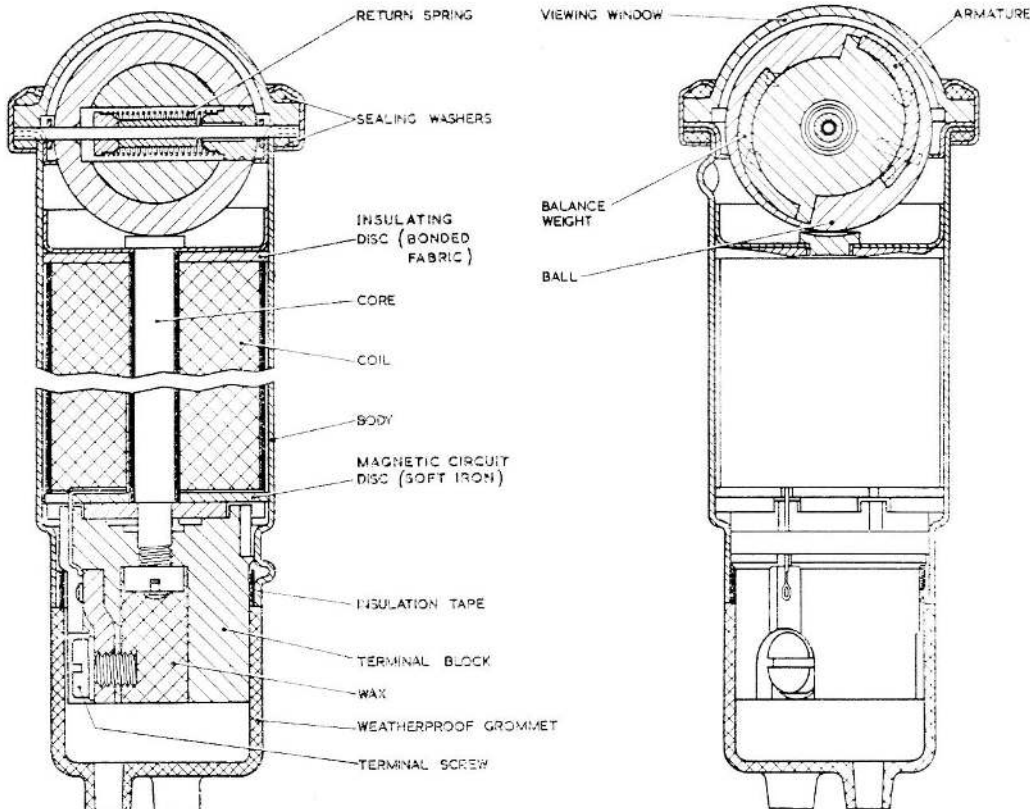
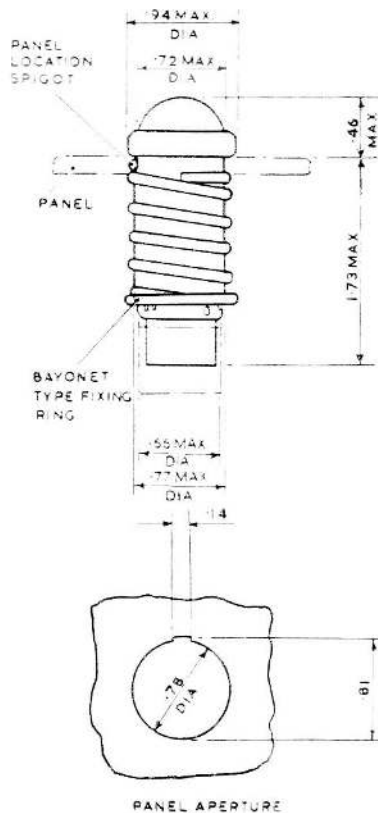

Fig. 1. Sectional views of 5165Y indicator
Fig. 2. Installation diagram
3. Sectional views of the Dowty two-position indicator are shown in fig. 1; fig. 2 is an installation diagram and shows the indicator mounted in a thin panel. A retaining spring fits over the indicator body between the panel and a bayonet type fixing ring. A location spigot on the top end of the indicator body fits in a cutaway in the panel to prevent the indicator rotating.
7. An installation diagram is shown in fig. 2 and illustrates the method of attaching the indicator to the panel. The panel cutaway should be as shown with the keyway at the top for vertical or sloping panels. The panel aperture should be as shown, with the cutaway at the top for vertical or sloping panels; in horizontal panels, the cutaway should be towards the edge of the panel furthest from the viewer.